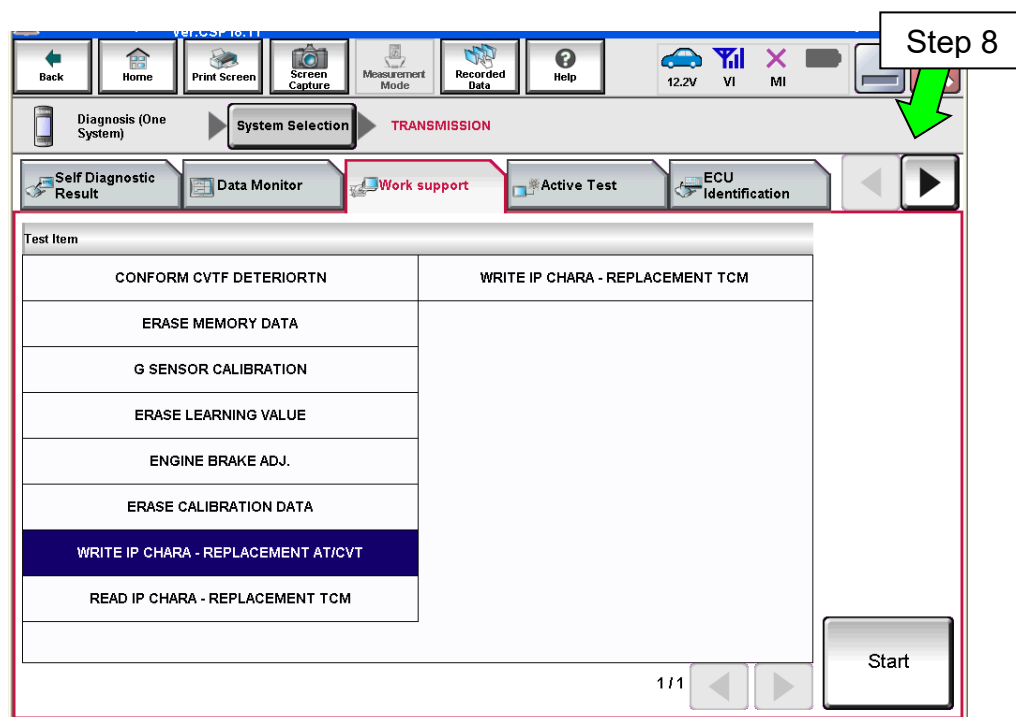

Figure 2
8. Select the scroll arrow shown in Figure 2.